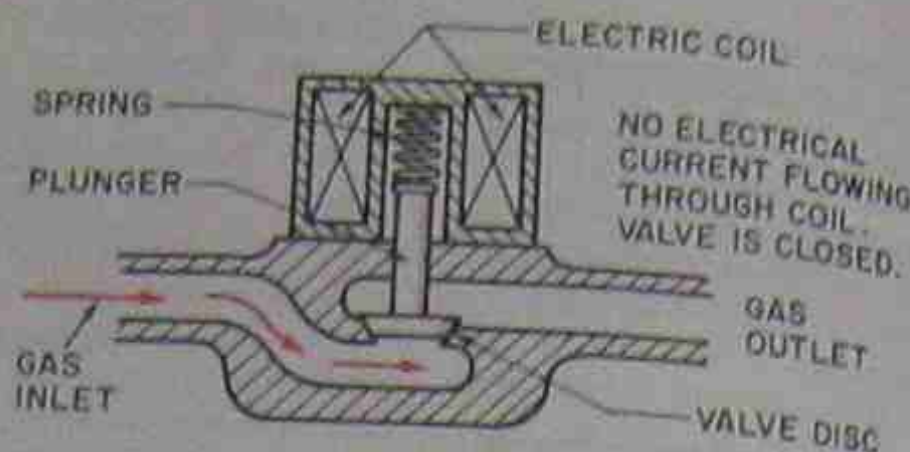
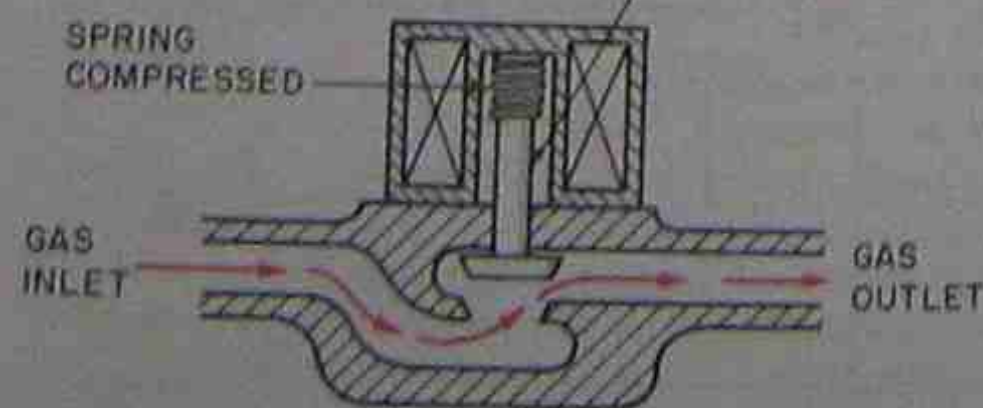

Figure 31-15. Solenoid gas valve in normally closed position.
Figure 31-16. Solenoid valve in open position.
The gas type *solenoid* valve is a normally closed (NC) valve, Figure 31-15. The plunger in the solenoid is attached to the valve or is in the valve. When an electric current is applied to the coil, the plunger is pulled into the coil. This opens the valve. The plunger is spring loaded so that when the current is turned off the spring forces the plunger to its NC position, shutting off the gas, Figure 31-16.